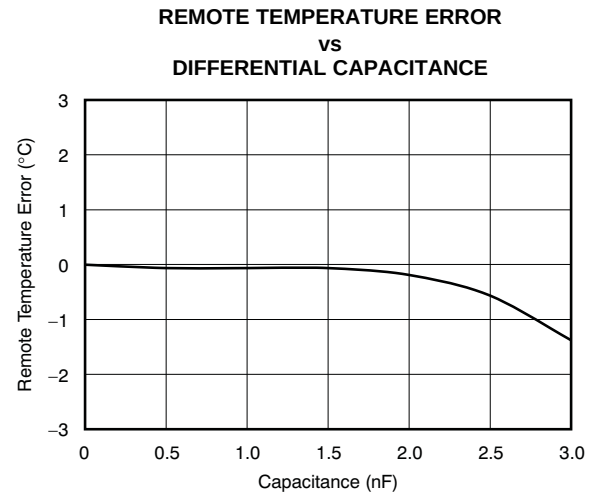

Figure 6.
(1) Diode-connected configuration provides better settling time. Transistor-connected configuration provides better series resistance cancellation.
(2) R_S (optional) should be $< 1.5\text{k}\Omega$ in most applications. Selection of R_S depends on application; see the Filtering section.
(3) C_{DIFF} (optional) should be $< 1000\text{pF}$ in most applications. Selection of C_{DIFF} depends on application; see the Filtering section and Figure 6, Remote Temperature Error vs Differential Capacitance.
(4) TMP422 SMBus slave address is 1001 100 when connected as shown.
The TMP422 tolerates differential input capacitance of up to 1000pF with minimal change in temperature error. The effect of capacitance on sensed remote temperature error is illustrated in Figure 6, *Remote Temperature Error vs Differential Capacitance*.